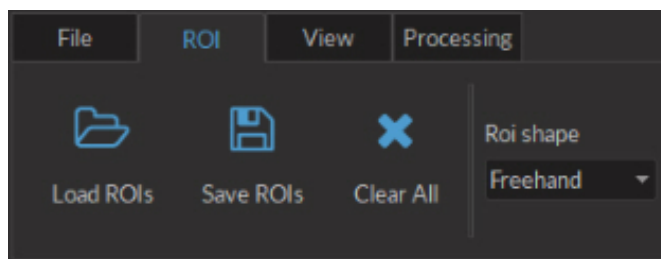

Figure 4.3: ROI Tab
2. The **ROI tab** (Fig. 4.3) is used to save/load data relating to regions of interest drawn on an image.